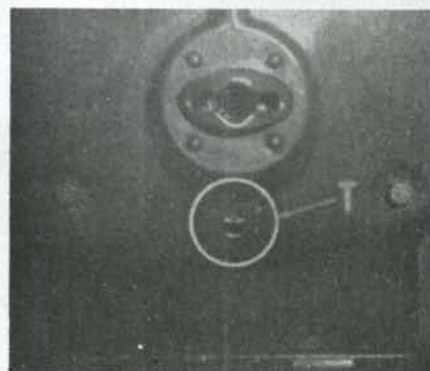

Fig. AC53G — Model G
140B. Delco-Remy model 1111708 distributor, of counter clockwise rotation (viewed from gear end) is used on this tractor. Set breaker points to .020 gap. To time the distributor to the engine, crank the engine until No. 1 piston (timing gear end) is on its compression stroke and the notched timing mark located on crankshaft pulley is centered in inspection hole, as shown at (T), in Fig. AC53G. Notched timing mark is located 3 degrees before TC.